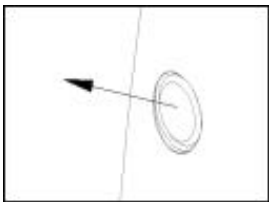

Figure 8
- Pull out the filter cover (see Figure 8);